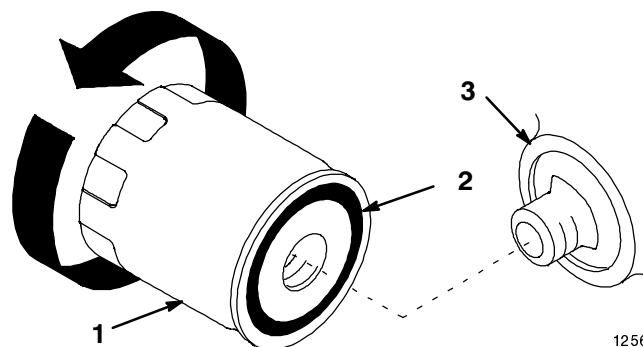

Figure 32
6. Change oil filter. (Fig. 32).
2. Remove the old filter and wipe the filter adapter (Fig. 32) gasket surface.
3. Apply a thin coat of new oil to the rubber gasket on the replacement filter (Fig. 32).
4. Install the replacement oil filter to the filter adapter. Turn the oil filter clockwise until the rubber gasket contacts the filter adapter, then tighten the filter an additional 1/2 turn (Fig. 32).